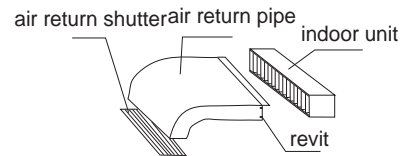

Fig.1
(1) Cut a hole on the wall and put the connecting pipe and connecting thread into the PVC, which is purchased at the local shop. With a slight downwards tilt towards the exterior, the gradient should be kept at least 1/100, as shown in Fig. 1.
Connect one side of the air return pipes to the air return port of the indoor units with rivets, with the other side connected to air return shutter, as shown in Fig. 1.